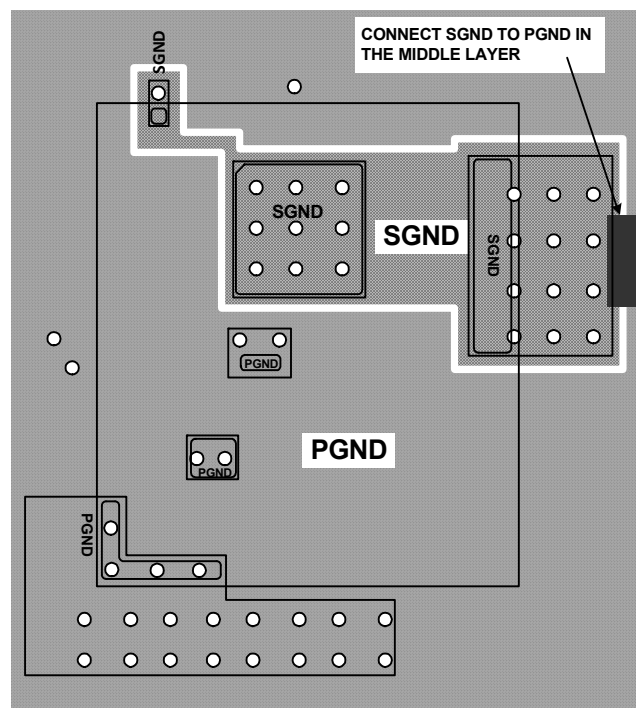

FIGURE 30. RECOMMENDED LAYOUT - CONNECT SGND TO PGND IN THE MIDDLE PCB LAYER AFTER ESTABLISHING SEPARATE SGND AND PGND
- Establish a separate SGND plane and PGND plane, then connect SGND to the PGND plane as shown in Figure 30 in the middle layer. For making connections between SGND/PGND on the top layer and other layers, use multiple vias for each pin to connect to the inner SGND/PGND layer. Do not connect SGND directly to PGND on a top layer. Connecting SGND directly to PGND without establishing an SGND plane will bypass the decoupling capacitor at internal reference supplies, making the controller susceptible to noise.